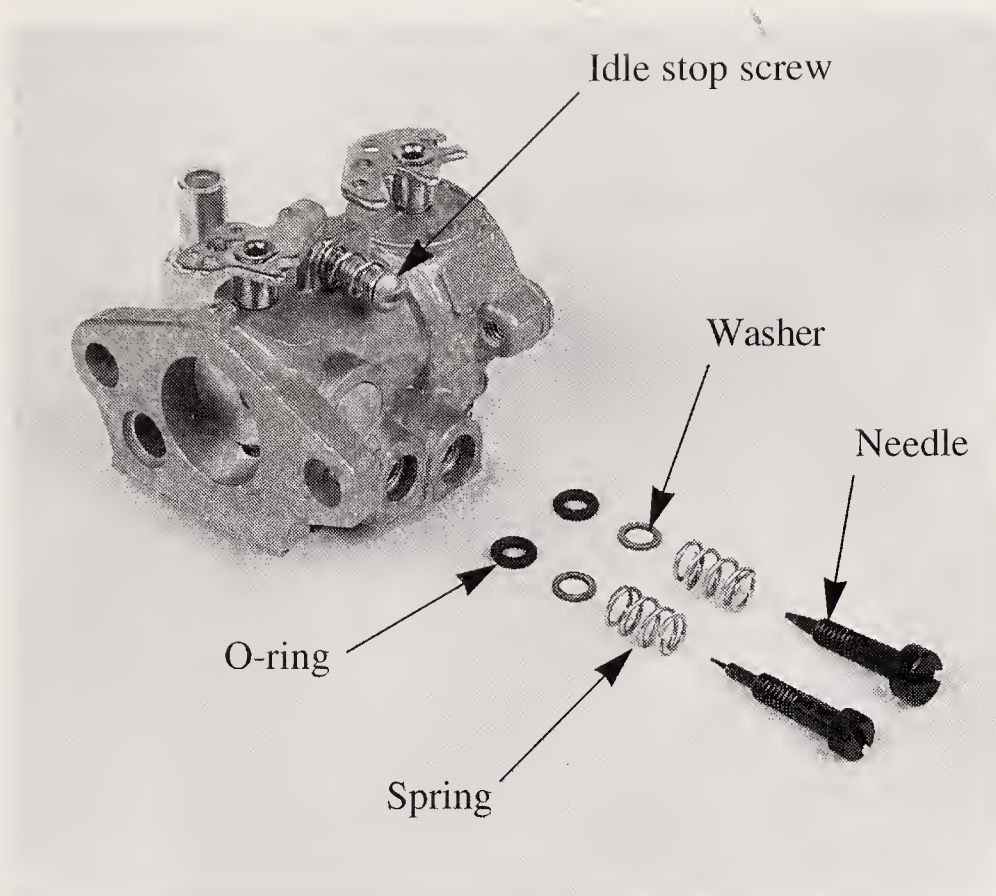

Figure 13-32. High speed needle, idle mixture needle, and idle stop screw are installed and preset.
5. Install high speed and idle mixture needles in the order shown in **Figure 13-32**.
6. Adjust the high speed and idle mixture needles as prescribed by the manual. This will get the engine started. Finer adjustments can be made when the engine is warmed up. The idle stop screw in **Figure 13-32** is turned one full turn after it first makes contact with the throttle lever.